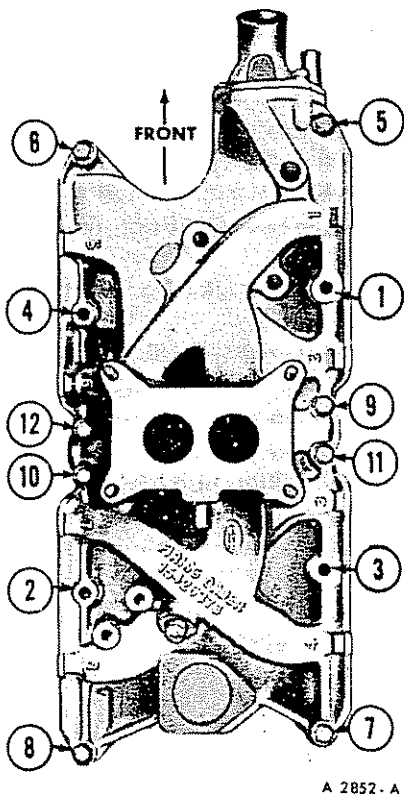

FIG. 44 Intake Manifold Bolts Tightening Sequence—302 CID Engine
5. Be sure the holes in the manifold gaskets and manifold are in alignment. Install the intake manifold attaching nuts and bolts. Tighten the nuts and bolts in two steps (Figure 44 or Figure 15). Tighten all nuts and bolts in sequence to specifications.